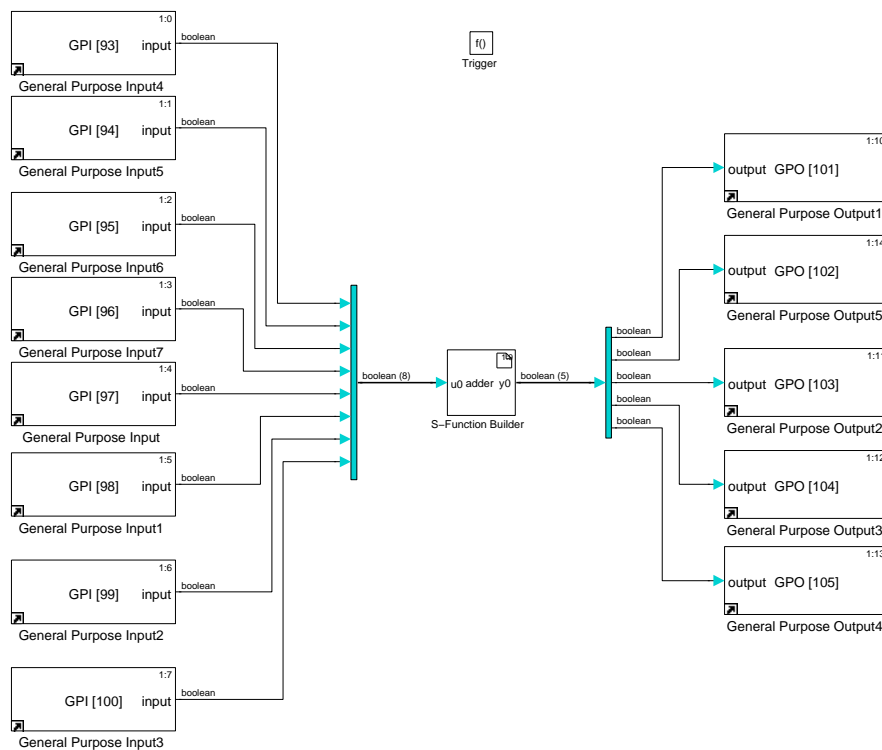

Figure 3: 4 Bit Adder with C-Code
- (a) Given a 32-bit unsigned integer as an input signal, extract the four bytes that make up the signal and form one output signal with four 8-bit unsigned integers muxed together. A diagram of this system is found in Figure 3 of the notes “Simulink Models for Autocode Generation”.
4. Create the model shown in Figure 3 in the Adder Task submodel. The **S Function Builder** block can be found in the Simulink library **Simulink / User-Defined Functions**. Save your model before continuing.